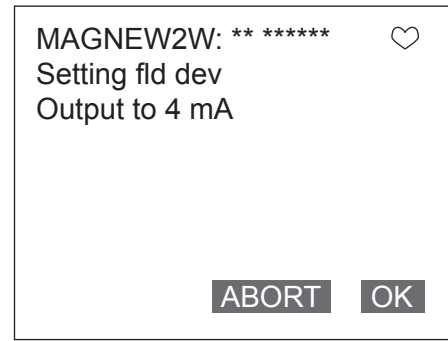

Figure 7-43
4. Figure 7-43 will then appear. By pressing F4 (OK), current adjustment will start and the converter will output a current corresponding to 0% of the flow range. If it is fine, press F4(OK)